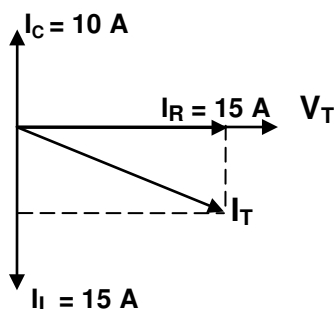

FIGURE 5.1: PHASOR DIAGRAM OF AN RLC PARALLEL CIRCUIT
- 5.3 The phasor diagram in FIGURE 5.1 indicates the current values flowing through the components of a parallel circuit connected across a 240 V/50 Hz supply. (3)